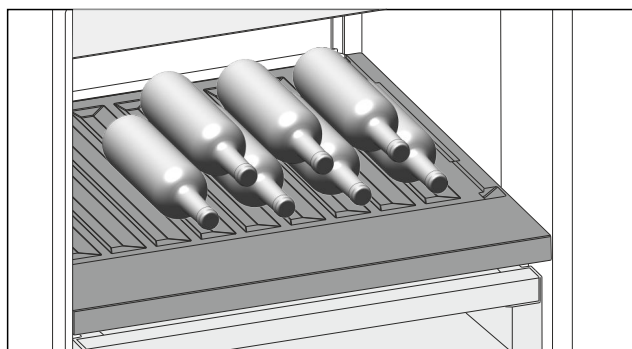

Fig. 119
- Place bottles in the back row with their bases against the back wall. (see Fig. 119)